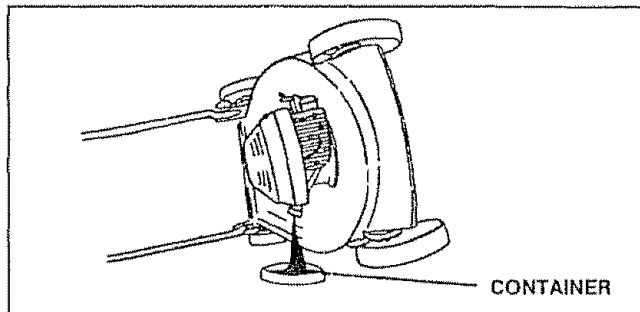

FIG. 13
**TO CHANGE ENGINE OIL** (See Fig. 13)